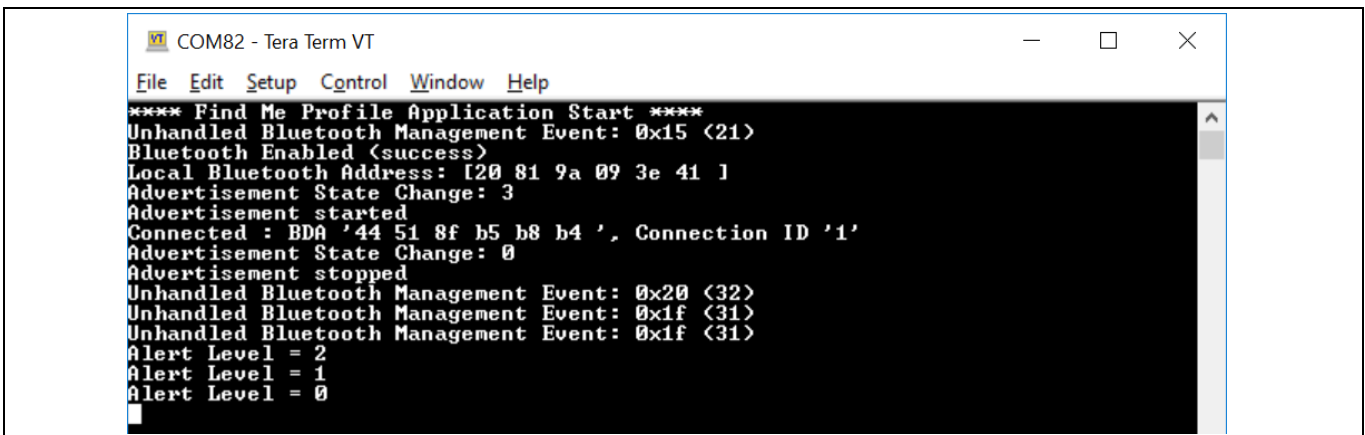

Figure 36 Log Messages on WICED UART Serial Port
5. Use the UART serial port to view the Bluetooth stack and application trace messages in the terminal window as shown in Figure 36.